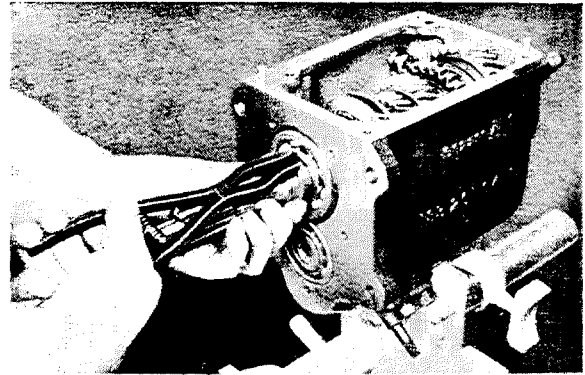

Fig. G 3/6
7. Drive mainshaft towards the front with a plastic hammer until it is possible to grip the bearing at the snap ring and press it forward by means of the two levers 136 589 00 35 (Fig. G 3/7). Pull the bearing with puller 135 589 02 33 (Fig. G 3/7a). Watch out for spacer ring located behind the snap ring!